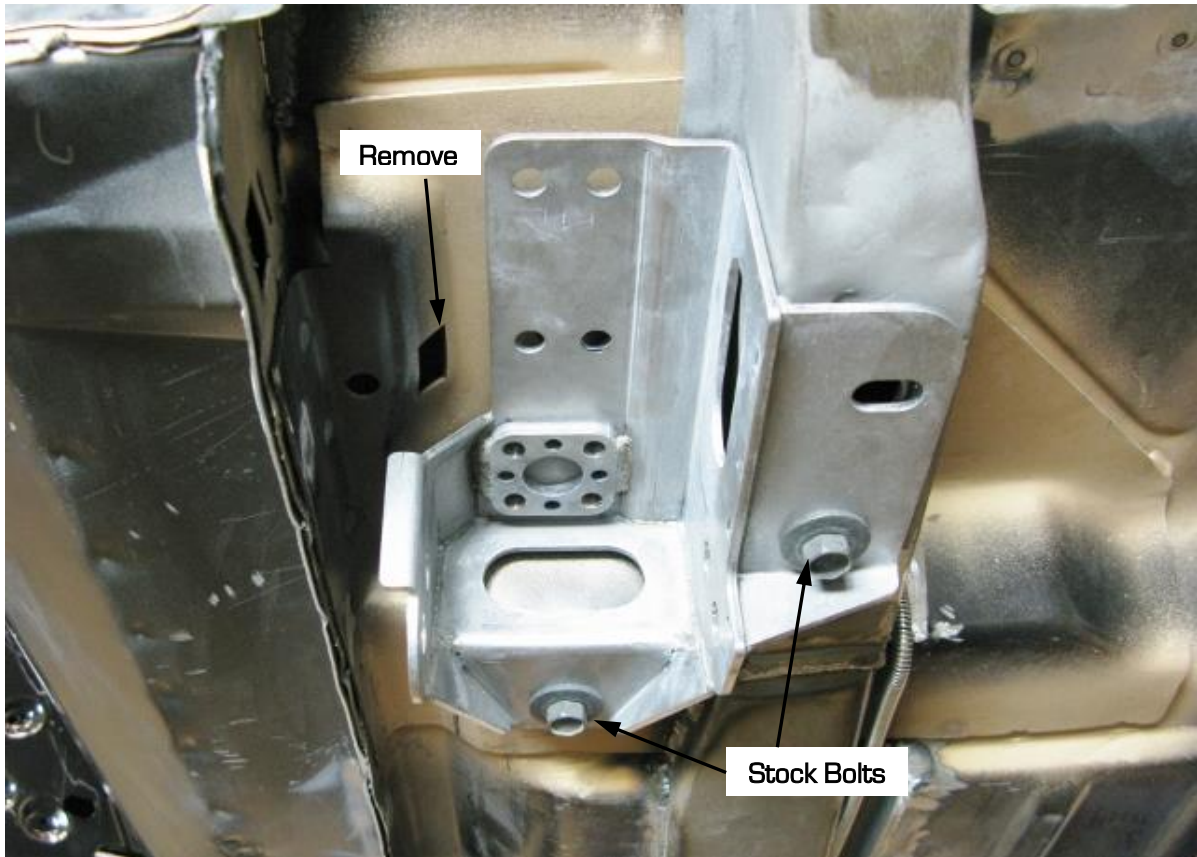

Figure 4 – Position Leaf Spring Pocket Assembly
10. Install the DSE pocket assemblies with your leaf springs in place of the factory leaf spring pockets using two of the three factory bolts (Figure 4). The U-clip for the 3rd factory bolt that is not used can be removed.